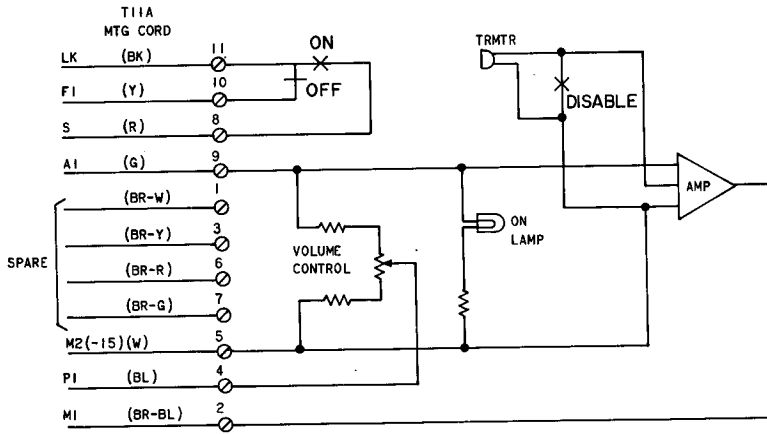
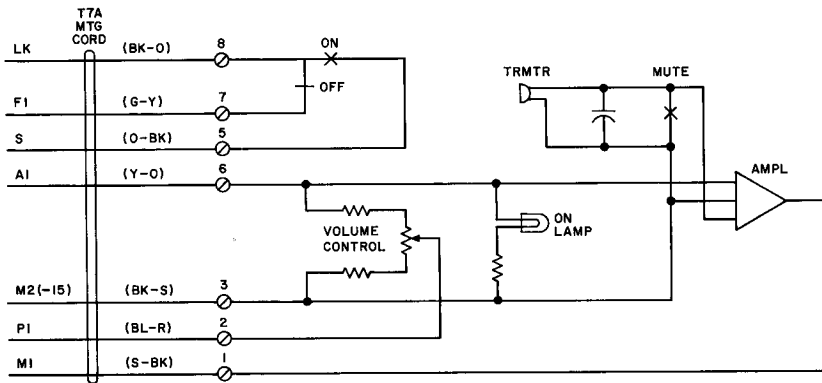

Fig. 3—666A (MD) Transmitter Connections
Fig. 4—666B (MD) Transmitter Connections
2.09 External 666-type transmitters consists of an AC1 transmitter unit, transistorized amplifier, etc. The 666A (MD) is equipped with a T11A mounting cord (Fig. 3). The 666B (MD) has a T7A cord (Fig. 4).